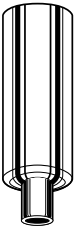

Figure 2
- Moisten O-ring inside large end of calibration chamber (Cat. No. 225-01-03, see Figure 2) and push chamber over cyclone stem until it fits snugly.